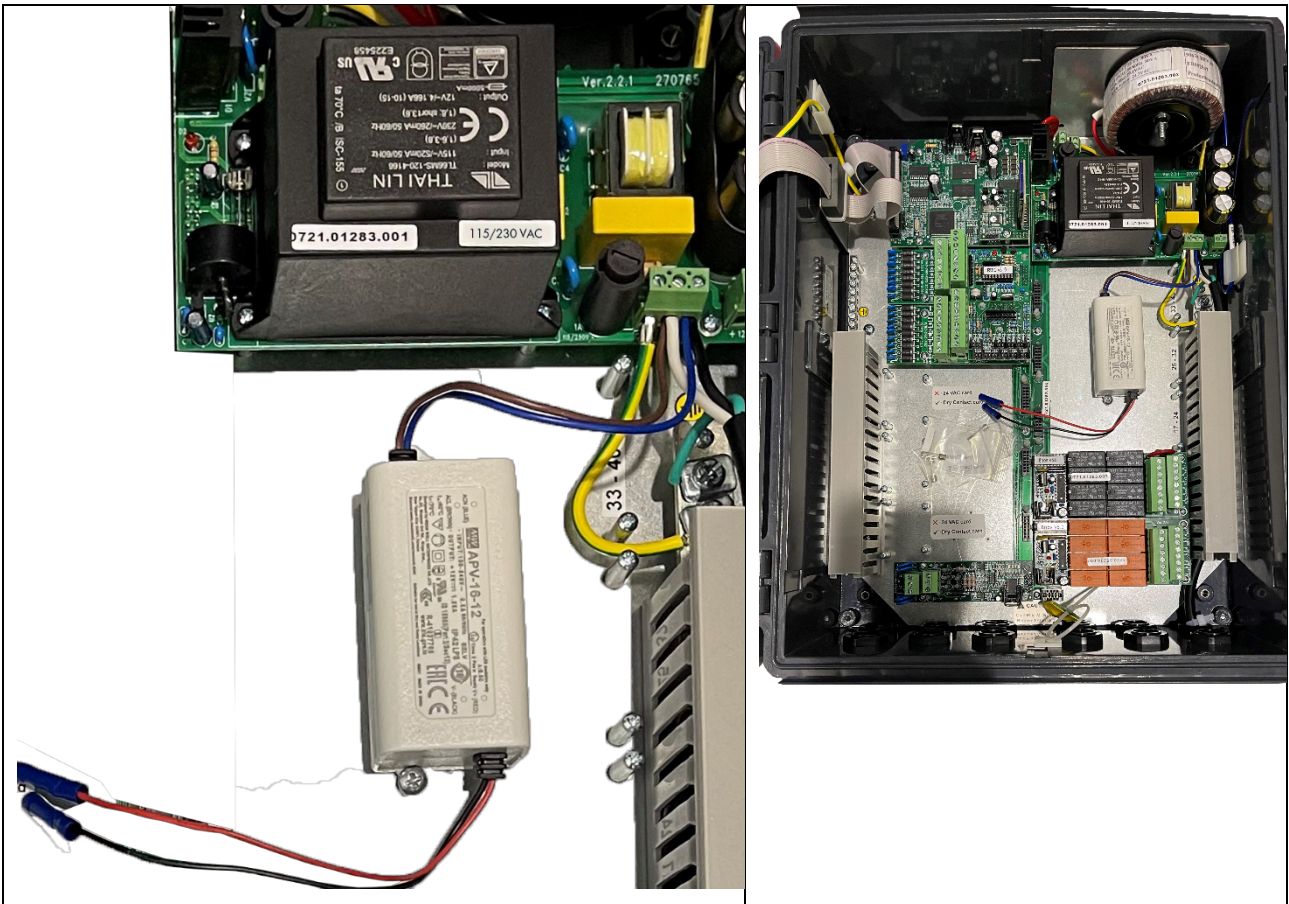

Figure 4: Wiring the CO2 Sensor Power Supply
- Refer to Figure 4 for details on the CO₂ sensor power supply.